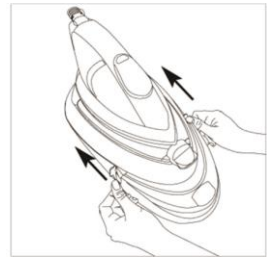

Figure11
3. Put the water tank back and make sure that it is firmly positioned in place (Figure 11).